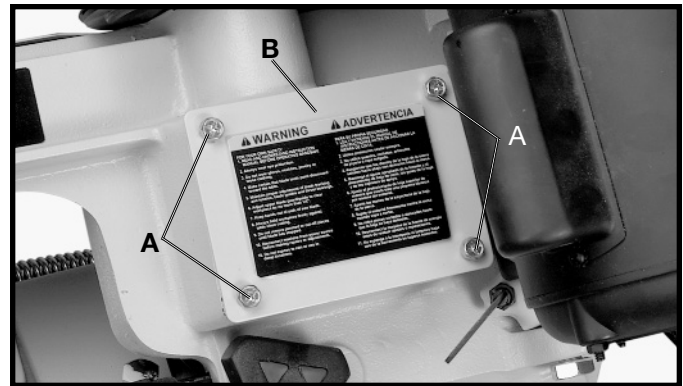

Fig. 38
2. Remove the four screws (A) Fig. 38, and the gear box cover (B) and gasket.